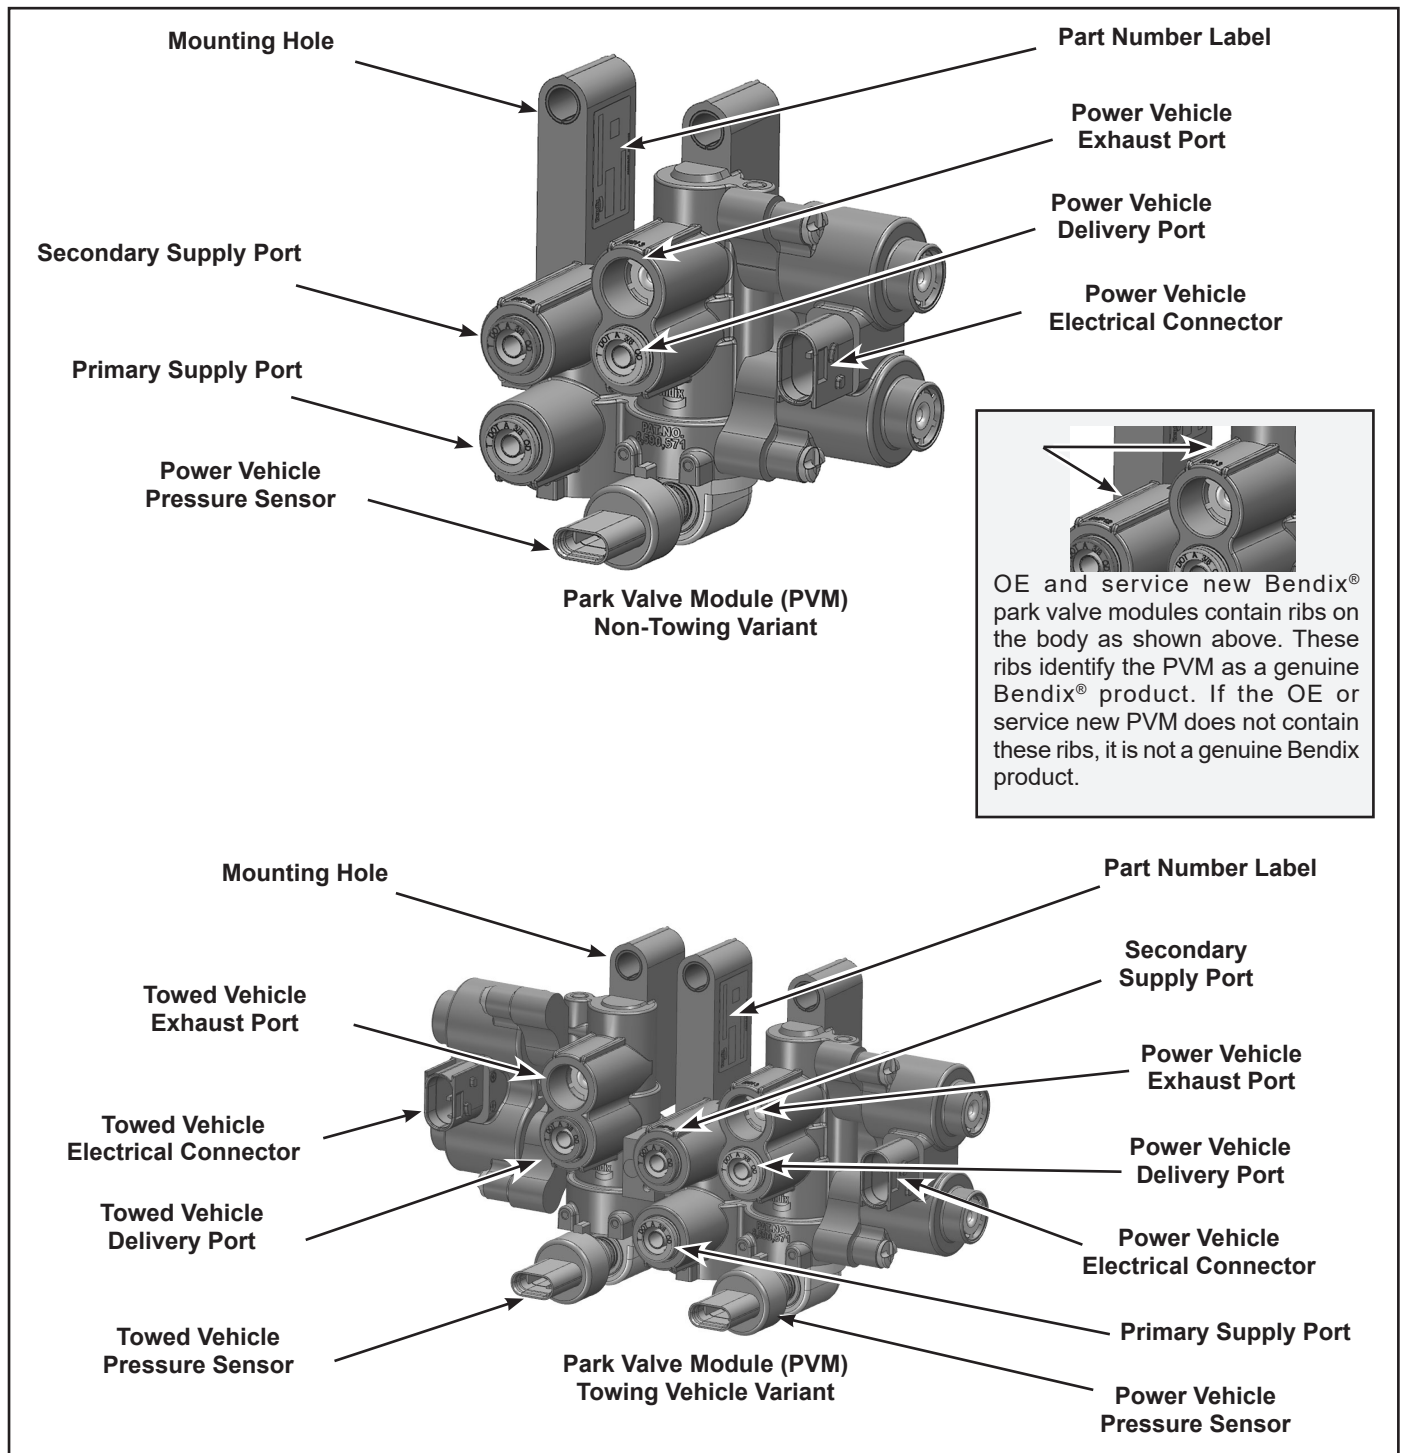

Figure 3 - Bendix® Park Valve Modules (PVM)
- Park Valve Module (PVM):** The PVM is an electromechanical valve assembly with a solenoid-piloted, pneumatically stable valve for each channel. The pneumatically stable valve is spring biased, much like the Bendix® MV-3® dash control valve, which provides a mechanical trip function on low reservoir pressure. The valve module also contains a duplex single-check valve to isolate the primary and secondary supply air, and a pressure transducer for each channel to allow direct measurement of the delivery pressure. See Figure 3 for both PVM configurations.